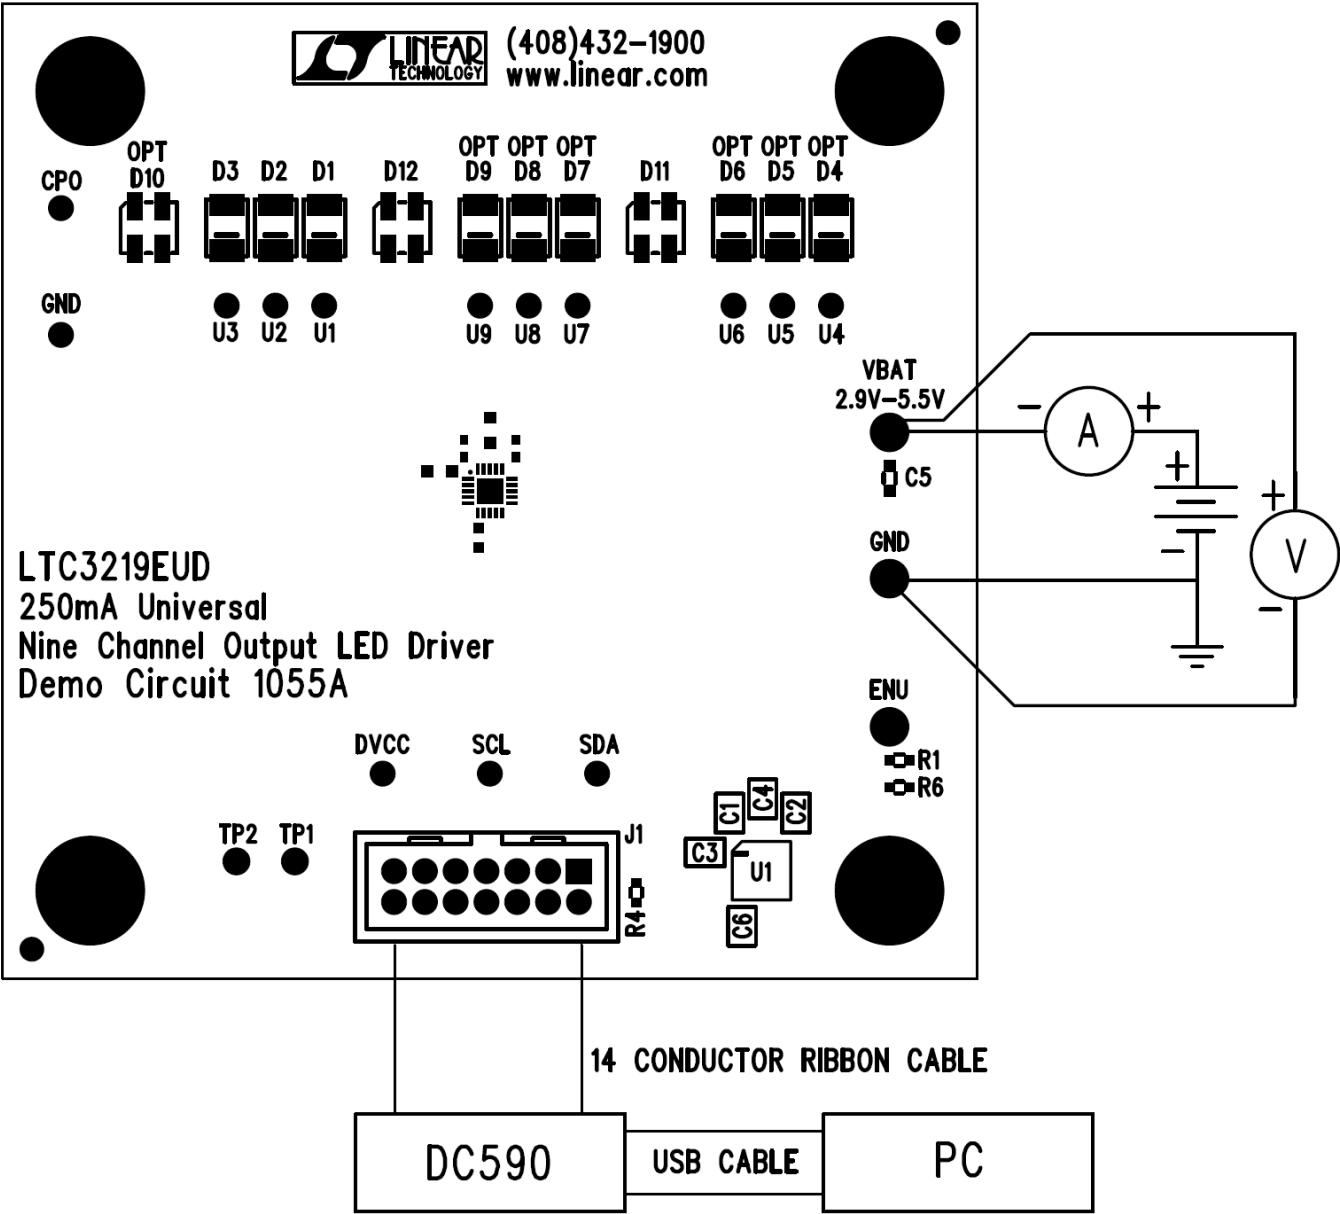

Figure 1. Proper Measurement Equipment Setup
Demonstration circuit 1055 is easy to set up to evaluate the performance of the LTC3219. Refer to Figure 1 for proper measurement equipment setup and follow the procedure below:
3. Connect DC1055 to the DC590 USB Serial Controller using the supplied 14-conductor ribbon cable as shown in Figure 1.
4. With power off, connect the input power supply to VBAT and GND with a series ammeter and a voltmeter as shown in Figure 1.